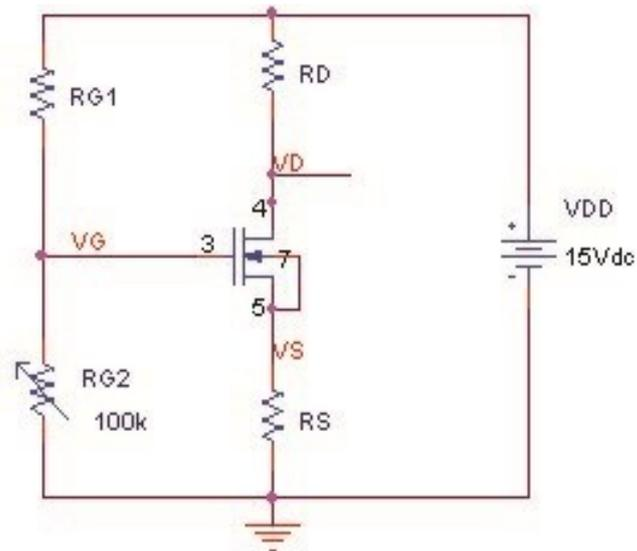
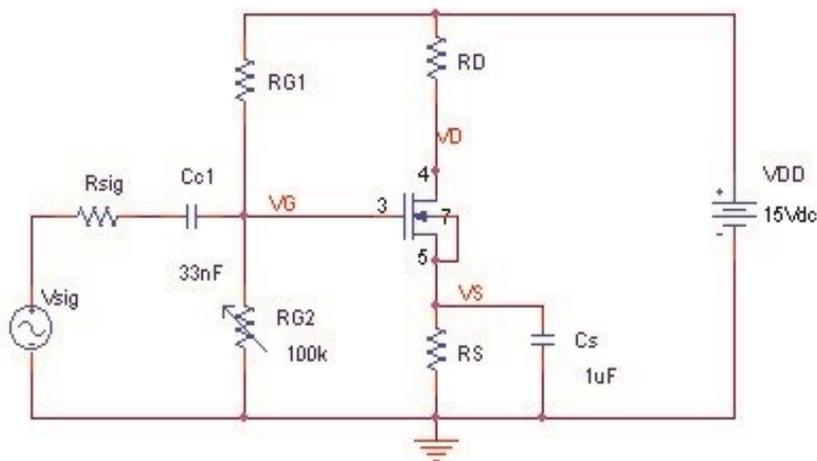

Figure 4: Biasing circuit of the common-source amplifier.
Figure 5: Common-source amplifier (R_{sig} is the internal resistor of the function generator and is about 50 Ohm).
a. Build the circuit of Figure 4. Use the transistor between the pins 3, 4 and 5. Notice that we have connected the bulk (pin (7)) to the source (pin (5)) of the NMOS transistor. This can be done since we are only using a single NMOS transistor in the array. The reason for shorting drain-to-bulk is to eliminate the back-gate (body) effect on the threshold voltage. For the biasing resistor R_{G2} , use a 100 kOhm potentiometer.
a. Modify the circuit of Figure 4 by adding the capacitors C_{C1} , and C_S as shown in Figure 5. Connect a sinusoidal input signal of 0.2V amplitude (0.4Vpp) and 5kHz frequency.